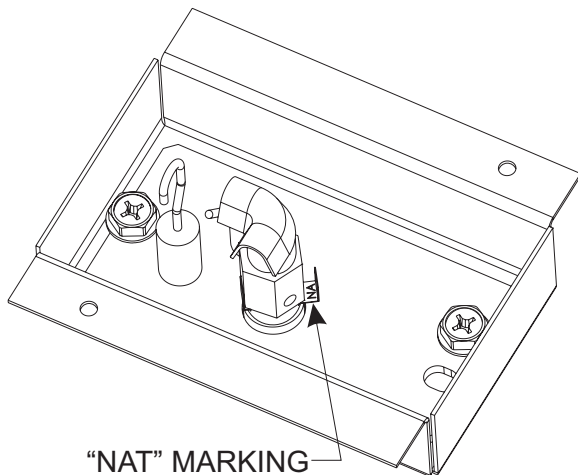

Figure 8
11. Use a 7/16 inch open wrench to loosen pilot body by slightly turning counter clockwise. Slide orifice bracket to other side and tighten pilot body clockwise. **(Figure 8)**